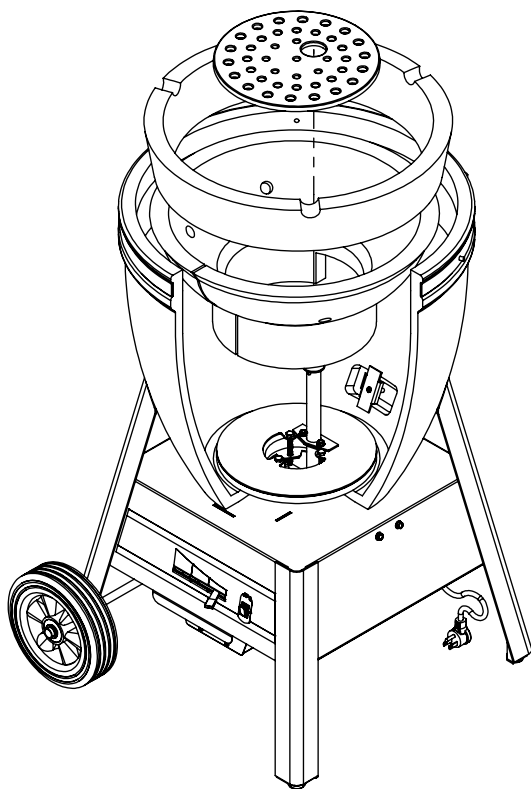

FIGURE 11: INNER CERAMICS AND GRATE INSTALL
Step 12: Place ceramic fire basket, ceramic fire ring, and charcoal grate into shell bottom as show in figure 11.